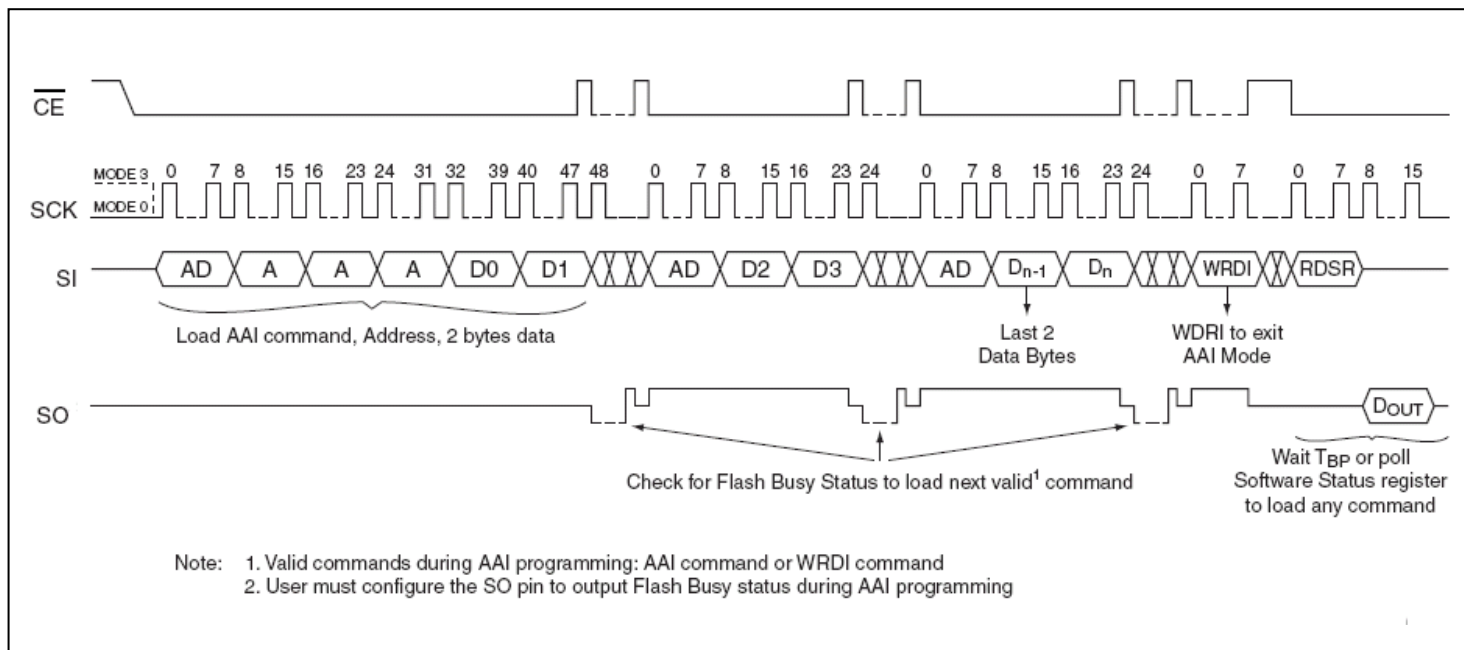
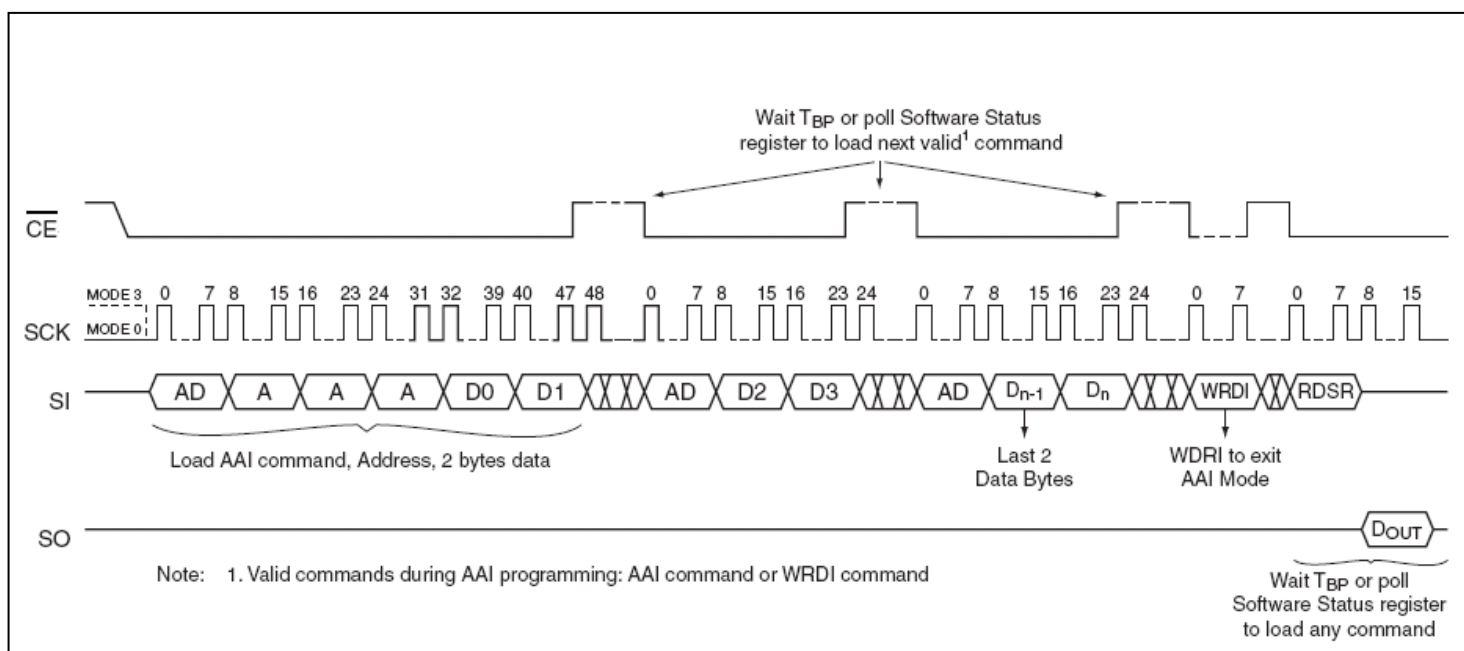

Figure 8: AAI WORD PROGRAM SEQUENCE WITH HARDWARE END OF WRITE DETECTION
Figure 9: AAI WORD PROGRAM SEQUENCE WITH SOFTWARE END OF WRITE DETECTION
7) to LSB (bit 0). The first byte of data (D0) will be programmed into the initial address $[A_{23}-A_1]$ with $A_0=0$; the second byte of data (D1) will be programmed into the initial address $[A_{23}-A_1]$ with $A_0=1$. \overline{CE} must be driven high before the AAI WORD program instruction is executed. The user must check the busy status before entering the next valid command. Once the device indicates it is no longer busy, data for next two sequential addresses may be programmed and so on. When the last desired byte had been entered, check the busy status using the hardware method or the RDSR instruction and execute the WRDI instruction, to terminate AAI. User must check busy status after WRDI to determine if the device is ready for any command. Please refer to Figure 8 and Figure 9.